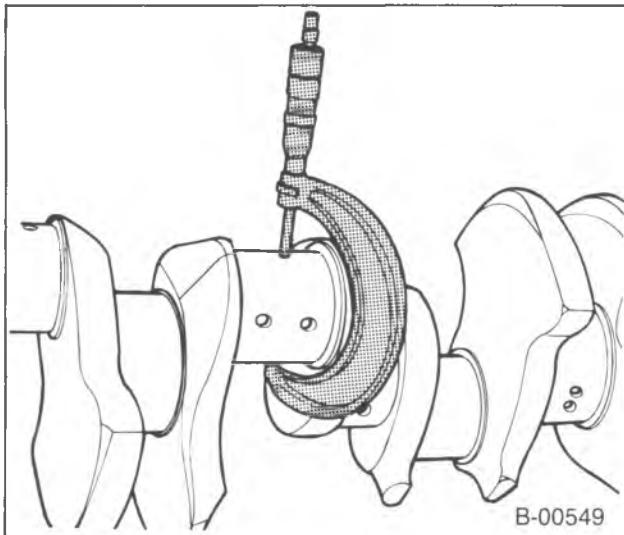

Figure 47—Measuring the Crankshaft Journals
**Measure (Figures 47 and 48)**
- Main bearing and connecting rod journal diameters (figure 47). Compare with
- Main bearing and connecting rod journals for taper and out-of-round (figure 47). If the journals are tapered or out-of-round more than 0.001-inch, grind or replace the crankshaft.